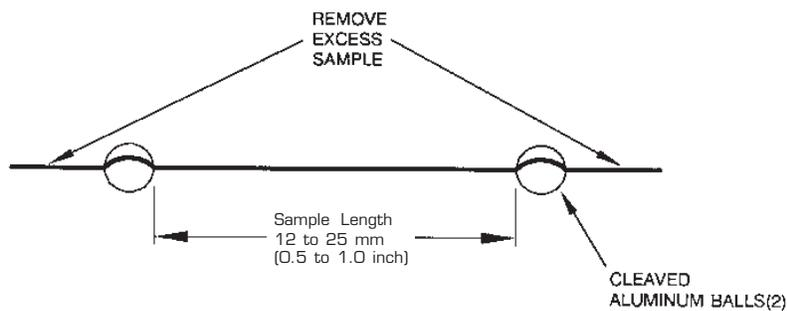

Figure 4.3
3. Lay the fiber across the balls, and press the fiber into the cleavage of each ball (see Figure 4.3).